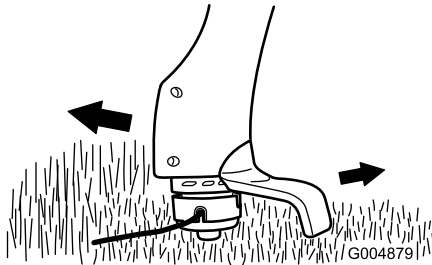

Figure 5
- Slowly move the trimmer in and out of the area being cut (Figure 5).